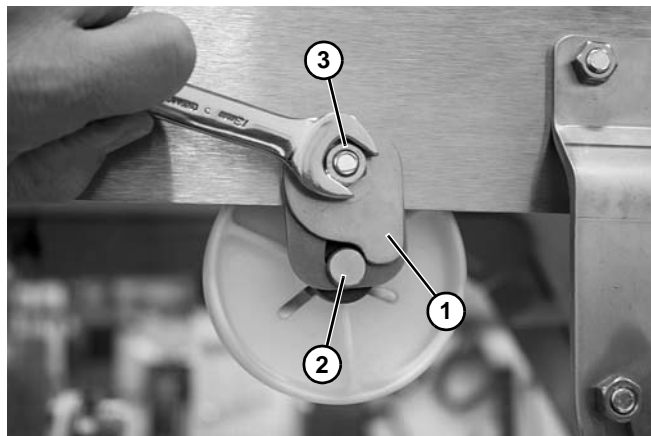

Figure 30
- Rotate return clip (**Figure 30, item 1**) down against stub shaft (**Figure 30, item 2**) on both sides of conveyor. Tighten nuts (**Figure 30, item 3**).